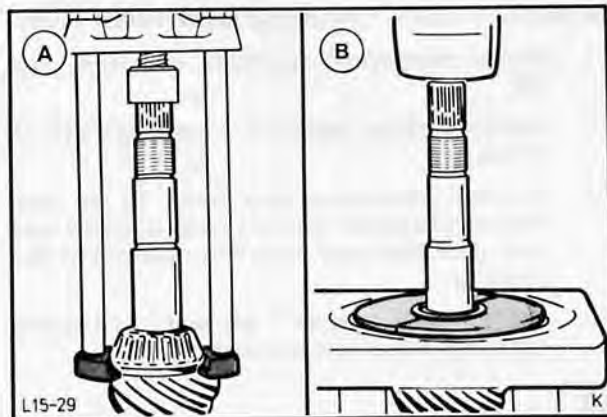

Fig. 102. Remove large taper roller bearing
6. Detach inner taper roller bearing from drive pinion with Special Tool, Fig. 102.